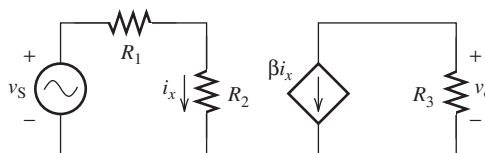

FIGURE P2.65 Circuit for Problem 2.65.
2.65 (H) Find the value of v_o with respect to v_s in Figure P2.65.